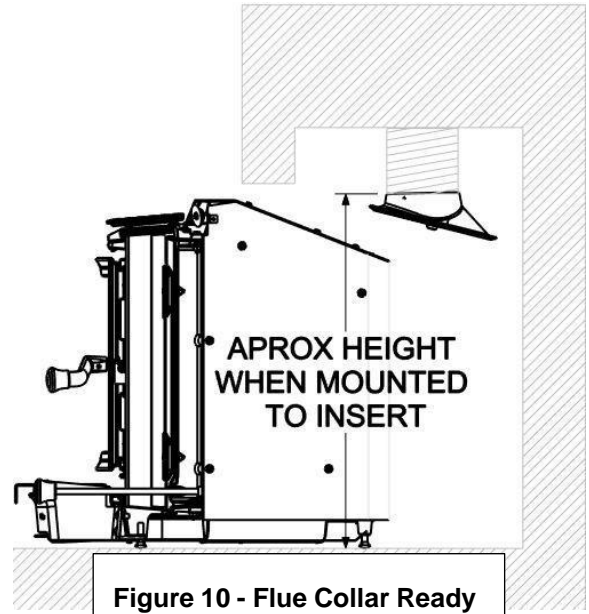

Figure 10 - Flue Collar Ready
**Step Five:** Install the flue collar to the liner (using three screws) adjust position of flue collar and seal remaining chimney opening. The flue collar should be hanging in the fireplace close to the height it will be when reattached to the insert (see figure 10). The flue collar should also be positioned so the lock bolts are parallel to the back wall of the fireplace. This way, the flue collar will need a minimal amount of adjustment when the insert is pushed into its final position.